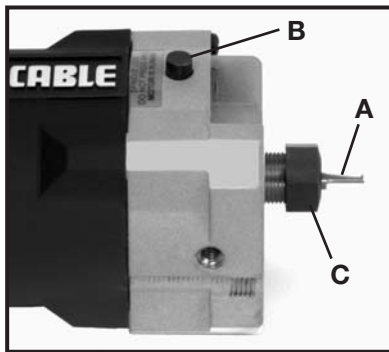

Fig. 14
1. Clean and insert shank of bit (A) Fig. 14, into collet until end of shank bottoms. Then pull bit out approximately  $\frac{1}{8}$ ".
2. Depress spindle lock (B) Fig. 14, and rotate collet nut (C) clockwise by